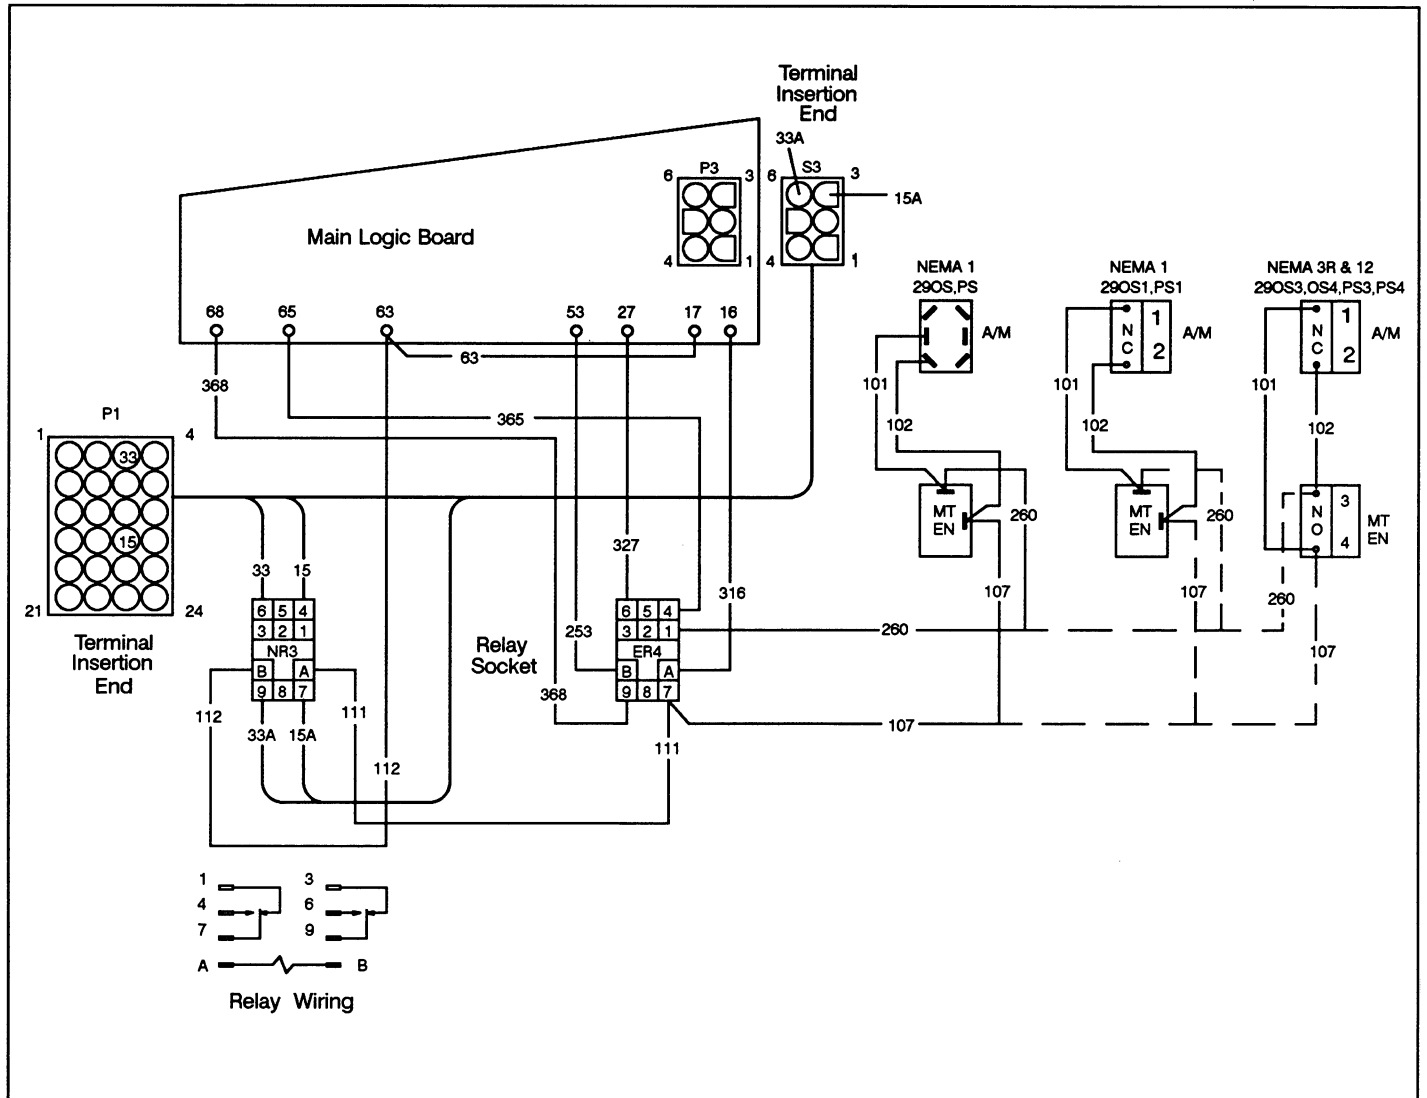

Figure 39. Manual (PBEN) Switch 29-O, P Connections.
□ Acc. 29-O, P – Switch operation from emergency to normal, with switch override circuit, plus a two-position selector switch for automatic or manual operation. See Figure 39. for connections.